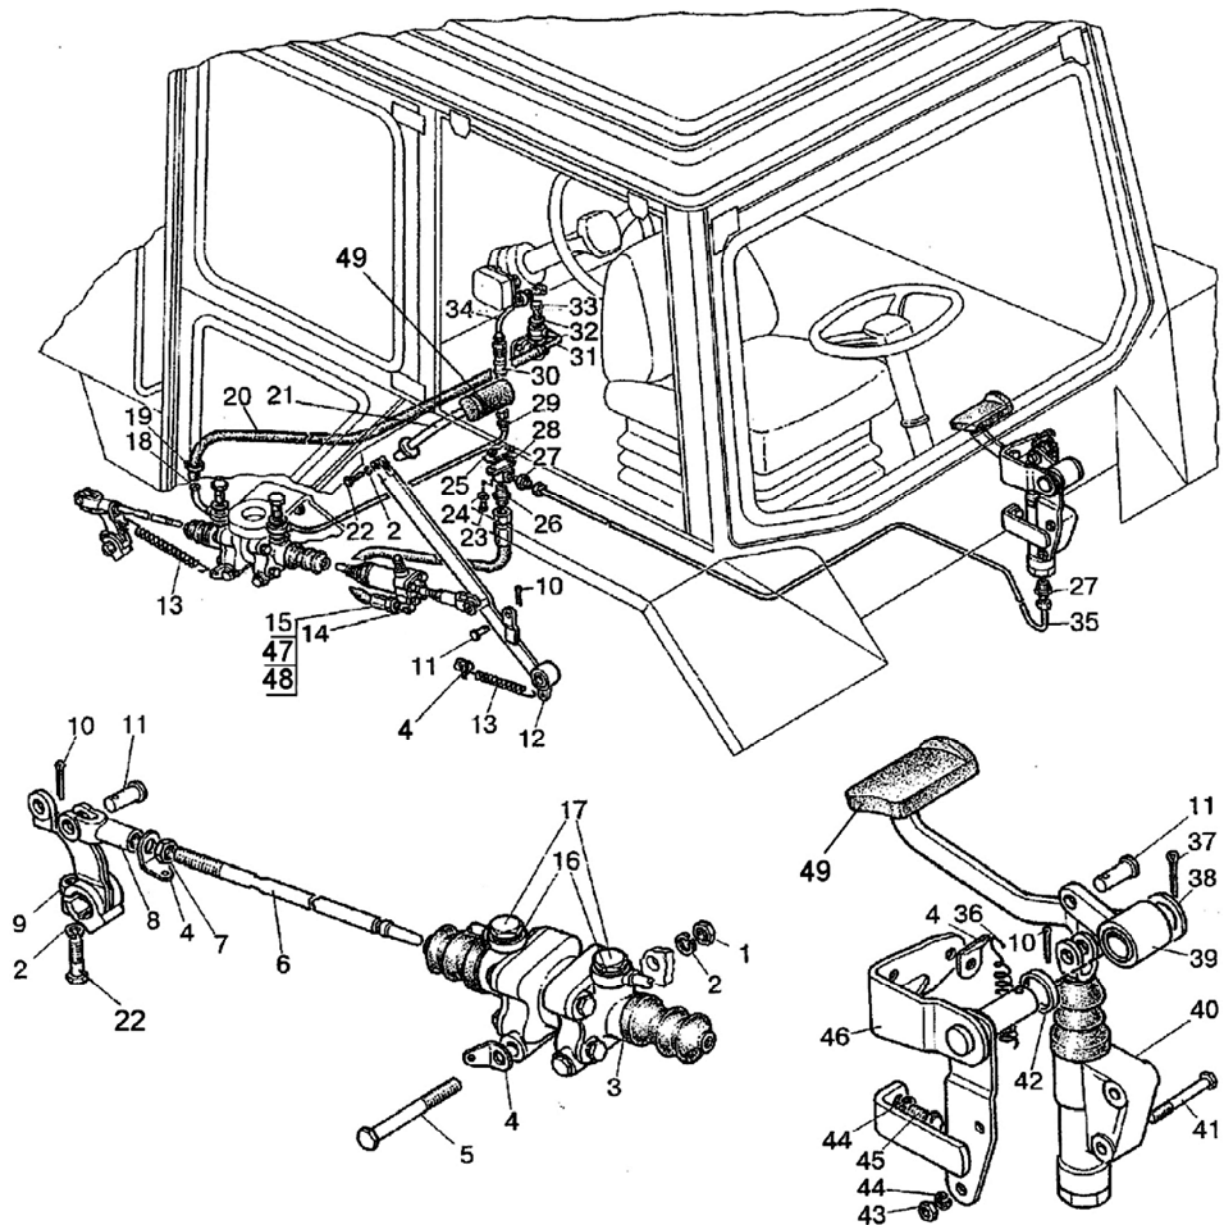

Figure 8.1
- 1) disconnect pipeline 35, flexible sleeve 15 (Figure 8.1), by unscrewing cap nuts;